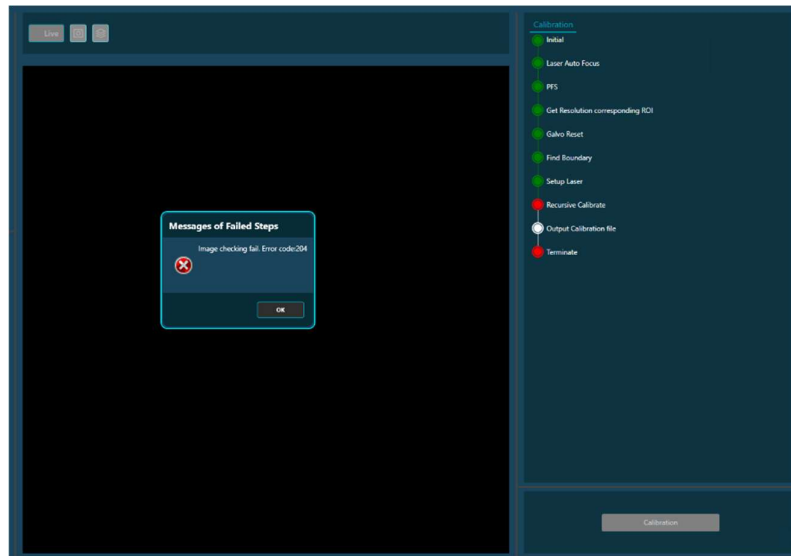

Fig. 14 – Calibration Error
4. When the calibration is complete, the system will generate the calibration file and open the folder containing the file. Bubbles for the Recursive Calibrate and subsequent steps in the workflow at the right of the screen will be filled green. If the calibration fails, the Recursive Calibrate bubble will fill red (Fig. 14), and you may see an error message. Use the Troubleshooting section below to find possible issues, then try again. If calibration continues to fail, please contact Syncell for support.